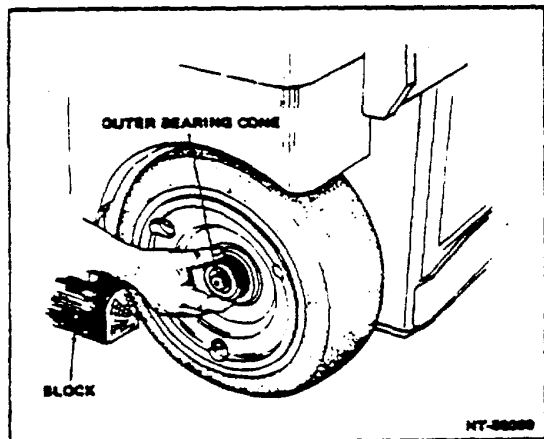
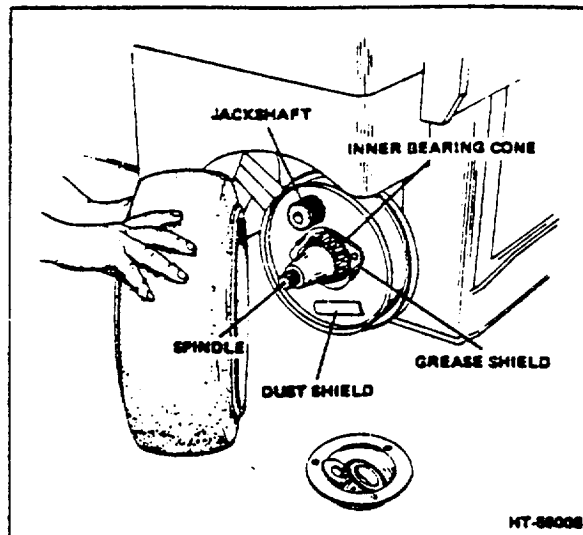

Figure 1-2. Removing Wheel Bearing
Figure 1-3. Wheel Removed
- e. Remove outer bearing cone (Fig 1-2) and remove wheel (Fig 1-3).